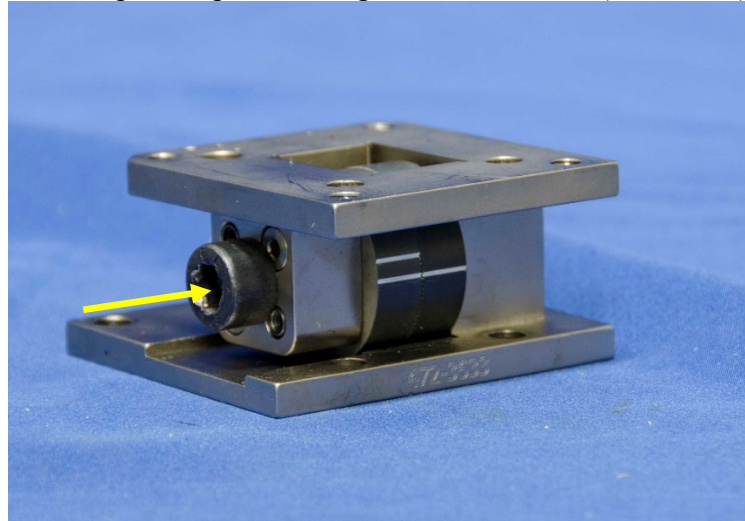

Figure 5-26. Align star pattern parts and install center bolt into neck pitch change mechanism
- 5.2.2.17 Assemble the top and bottom plates together. Align the indicator lines on each star pattern part to the desired position (the standard position is set to “neutral” as shown in Figure 5-26). Be certain that the star patterns properly mate together so as not to damage the parts. Insert the M10 x 1.5 x 55 SCHS through the star pattern parts and tighten to 50.8 N-m (37.5 ft-lbf).